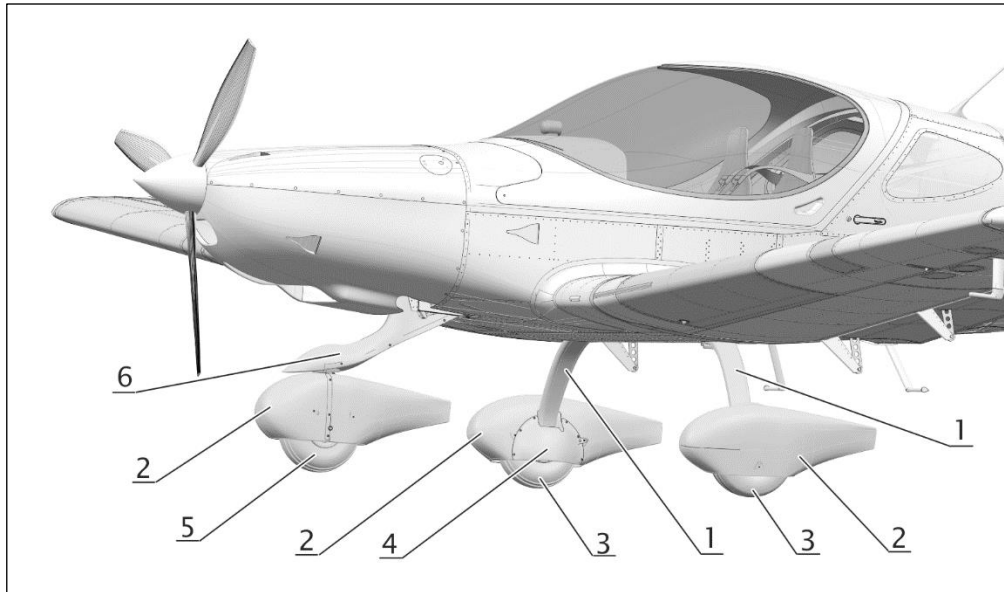

Figure 1 Landing Gear
The main landing gear (see Fig. 1) consists of the composite landing gear legs (1), wheel axle and wheel (3) equipped with disc brakes (4).